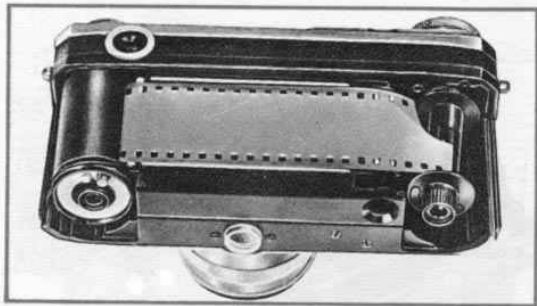

Fig. 11. Camera loaded with cartridge and take-up spool
2. Place the cartridge into the left-hand seat and the take-up spool into the right-hand seat of the camera housing; see to it that the film perforation engages with the teeth of the film transport drum (Fig. 11).